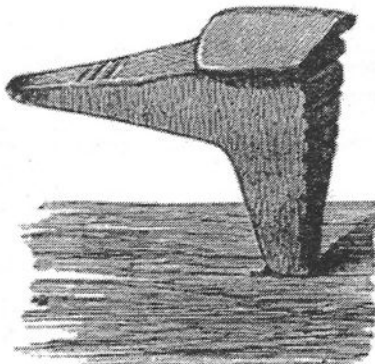

Fig. 217.—Fresné la Mère. 1/2
2. *Ancient Bronze Implements of Great Britain, Weapons and Ornaments of Great Britain and Ireland*, John Evans, 1881, Longmans, Green and Co. London. pp.182-183, fig.217